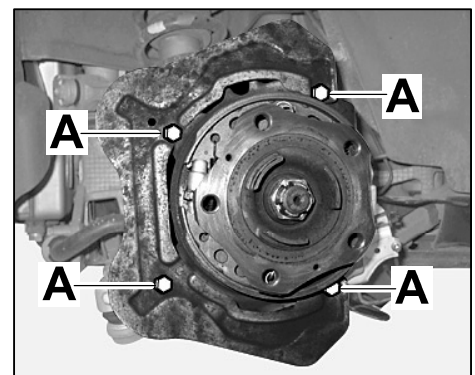

Figure 3
2.3 Unscrew screws ⇒ *Figure 3-A-* and remove cover plate.
- 3.3 Replace fixing clip ⇒ *Figure 3-A-* for electric line for wear indicator if necessary.